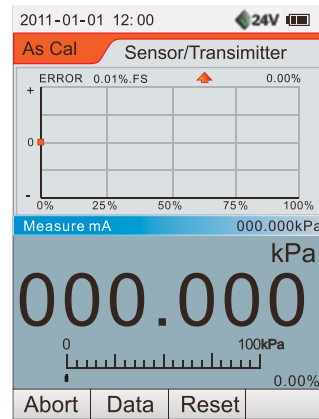

Figure 9.32 Curve display
4. Use **↑** or **↓** key to select the sensor /transmitter options, press **F4** or **Enter Hold** key to enter As Cal execution interface, as shown in Figure 9.32.